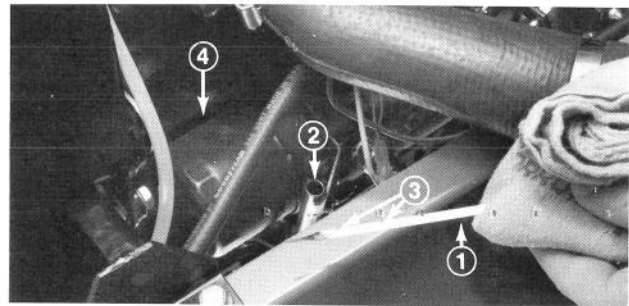
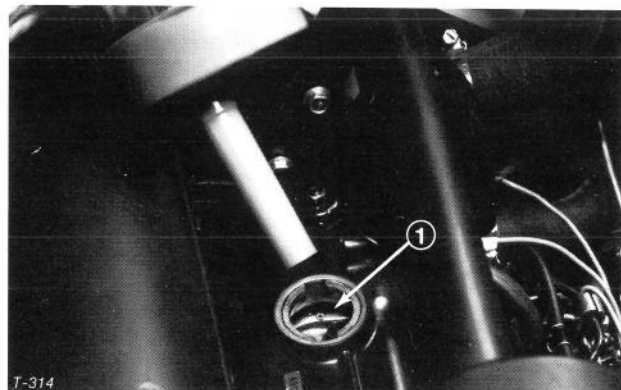

Figure 17
Figure 18
4. Remove dipstick and wipe it with a clean rag (Fig. 17). Push dipstick down into the tube and ensure it is fully seated. Pull dipstick out of the tube and check level of oil. If oil level is low, remove filler cap (Fig. 18) and add enough oil to raise level to top notch on dipstick (Fig. 17). **DO NOT OVERFILL.**